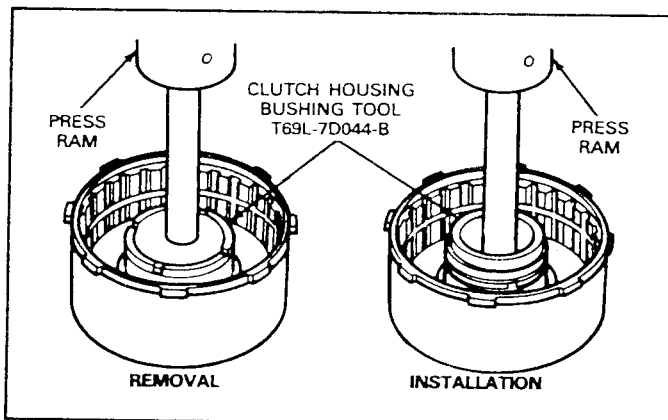

FIG. 43 Replacing Reverse-High Clutch Rear Bushing
7. Remove the front and rear bushings from the clutch drum if they are worn or damaged. To remove the front bushing, use a cape chisel and cut along the bushing seam until the chisel breaks through the bushing wall. Pry the loose ends of the bushing up with an awl and remove the bushing. To remove the rear bushing, use Tool T69L-7D044-B or equivalent shown in Fig. 43, and press the bushing from the drum.
1. If the clutch drum bushings were removed, position the drum in a press and press new bushings into the drum with the Tool T69L-7D044-B or equivalent shown in Figs. 43 and 44.